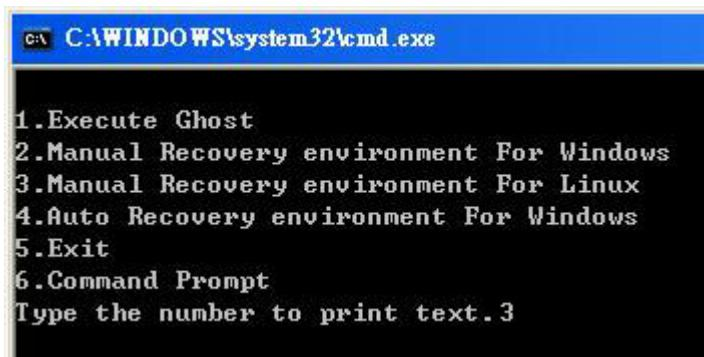

Figure A-30: Manual Recovery Environment for Linux
Step 4: **Build-up recovery partition.** Press any key to boot from the recovery CD. It will take a while to launch the recovery tool. Please be patient. When the recovery tool setup menu appears, type <3> and press <Enter> (**Figure A-30**). The Symantec Ghost window appears and starts configuring the system to build-up a recovery partition. After completing the system configuration, press any key to reboot the system. Eject the recovery CD.